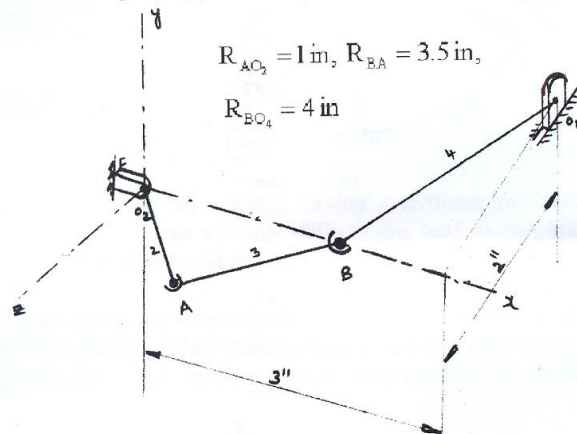

Fig. Q8 (b)
- b. A 4 link RGGP crank-rocker mechanism is shown in Fig. Q8 (b). The knowns are the position and plane of rotation of input link, the plane of rotation of output link and dimensions of all 4 links. Find the positions of all moving links when the input crank is set to $\theta_2 = -45^\circ$ as shown in Fig. Q8 (b). (14 Marks)